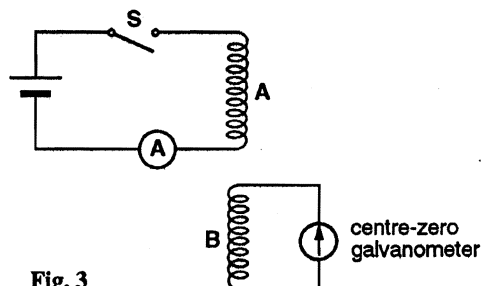

Fig. 3
- (a) Fig. 3 shows an arrangement of apparatus which can be used to demonstrate electromagnetic induction. Coil A is connected to a battery as shown and coil B is connected to a sensitive centre-zero galvanometer. Coils A and B are placed close together.
(ii) State and explain one reason why the design of the transformer you have drawn is better than the arrangement of coils shown in Fig. 3. [4]